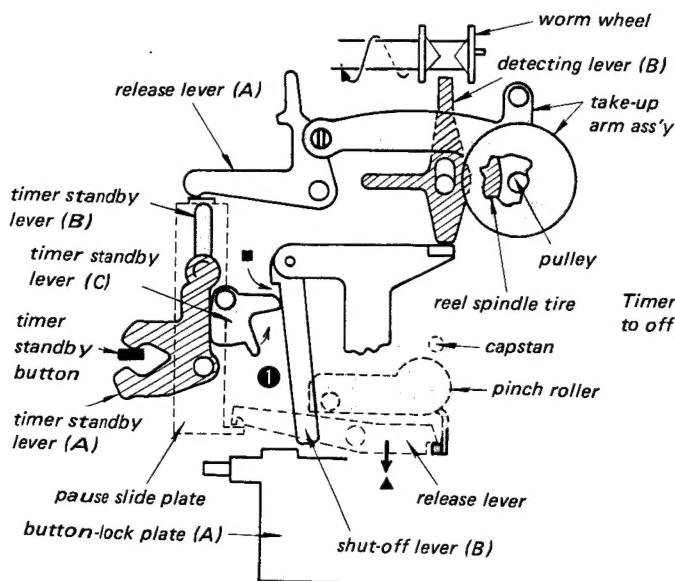

Fig. 1-5.
(See Fig. 1-5.)
2. The worm wheel pushes against detecting lever (B).
3. The ■ marked section of shut-off lever (B) pushes against standby lever (C) as shown in Fig. 1-5.
4. The timer standby lever (C) pushes against standby lever (A), thereby returning the timer standby button to the off position.
5. The timer standby lever (B) and release lever (A) return to their original positions, thereby bringing the take-up arm to engage against the tire of the take-up reel spindle which is rotated by motor.